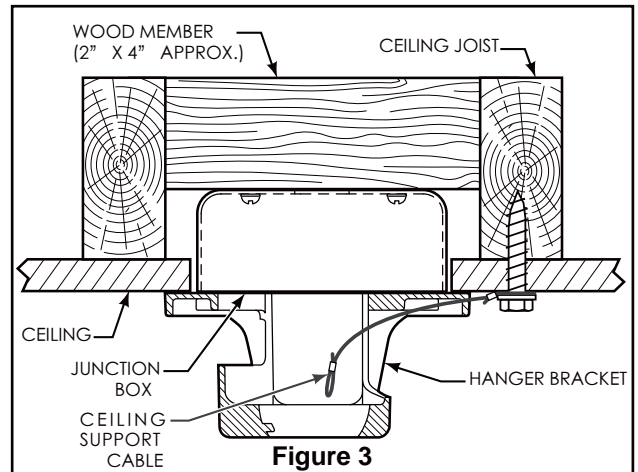

Figure 3
Deep box with brace (Figure 3)
3. Loosen the two set screws and locking nuts in the downrod support of the motor assembly. Route the black/white, blue, red, gray and yellow wires and safety cable through the downrod. (Figure 3)
1. Using the $\frac{3}{8}$ " x 2" lag bolt and flat washer, attach safety cable to ceiling joist or wood structural member. The lag bolt will pass through the flat washer, safety cable loop, and into the building structure (Figure 3). You will first drill a $\frac{1}{4}$ " pilot hole into the building structure to prevent splitting or cracking.
NOTE: Ceiling support cable cannot be secured to junction box only, it must be directly secured to ceiling joist or structural member using the $\frac{3}{8}$ " x 2" lag bolt and flat washer. (Figure 3)
2. Slide the receiver into the hanger bracket as shown in Figure 3.